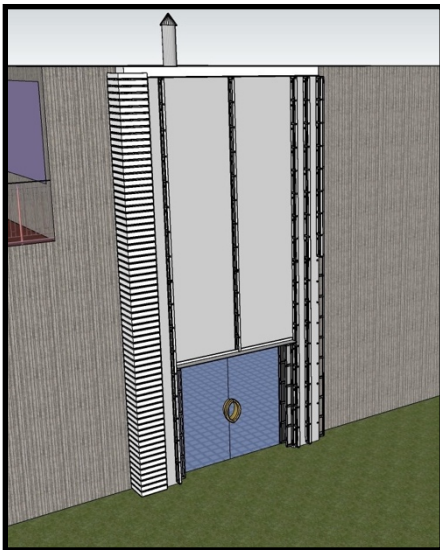

Fig 7
6. Continue installing all Corner Screens as show in Fig 7 & 8